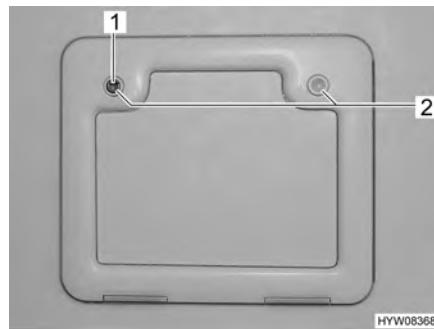

Fig. 14 External flap Thetford cassette
- Insert key into locking cylinder (Fig. 14,1) of the push-button lock and turn a quarter turn.
- Press both push-button locks (Fig. 14,2) simultaneously with your thumb and open the external flap.
- Insert key into locking cylinder (Fig. 14,1) and turn a quarter turn.